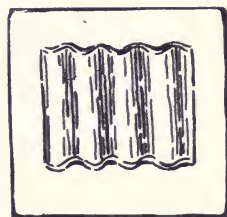

Fig. 228. Corrugated Fastener.
*Corrugated fasteners*, Fig. 228, or fluted nails, are used to fasten together two pieces of wood by driving the fastener so that one-half of it will be on each side of the joint. Their size is indicated by the length and the number of corrugations, as  $\frac{1}{2}$ ", four. They are often useful where nails are impracticable.